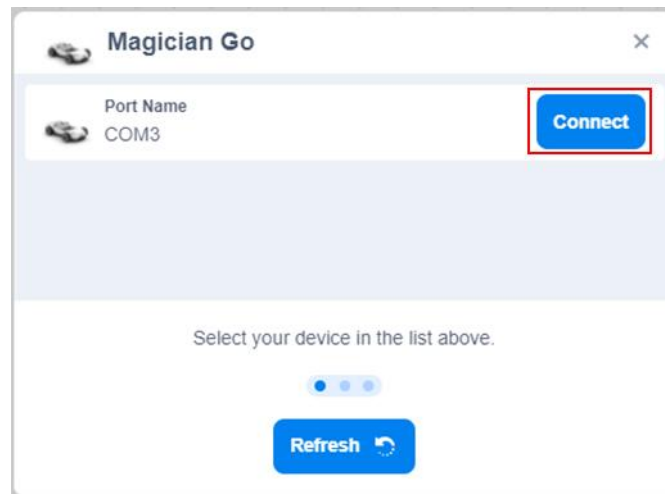

Figure 4.18 Connect Magician Go and DobotLab
**Step 5** Click “Connect”, as shown in Figure 4.18.